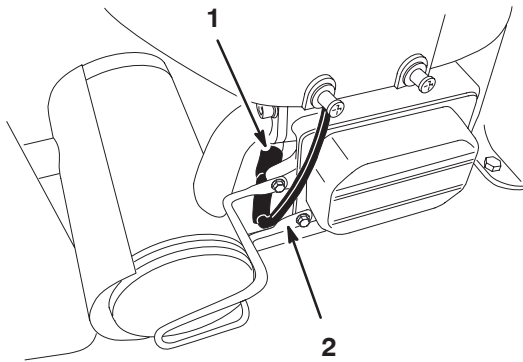

Figure 23
- Pull the wire off of the spark plug (Fig. 23). Clean around the spark plug to prevent dirt from falling into the engine and potentially causing damage.
3. Push the wire onto the spark plug (Fig. 23).